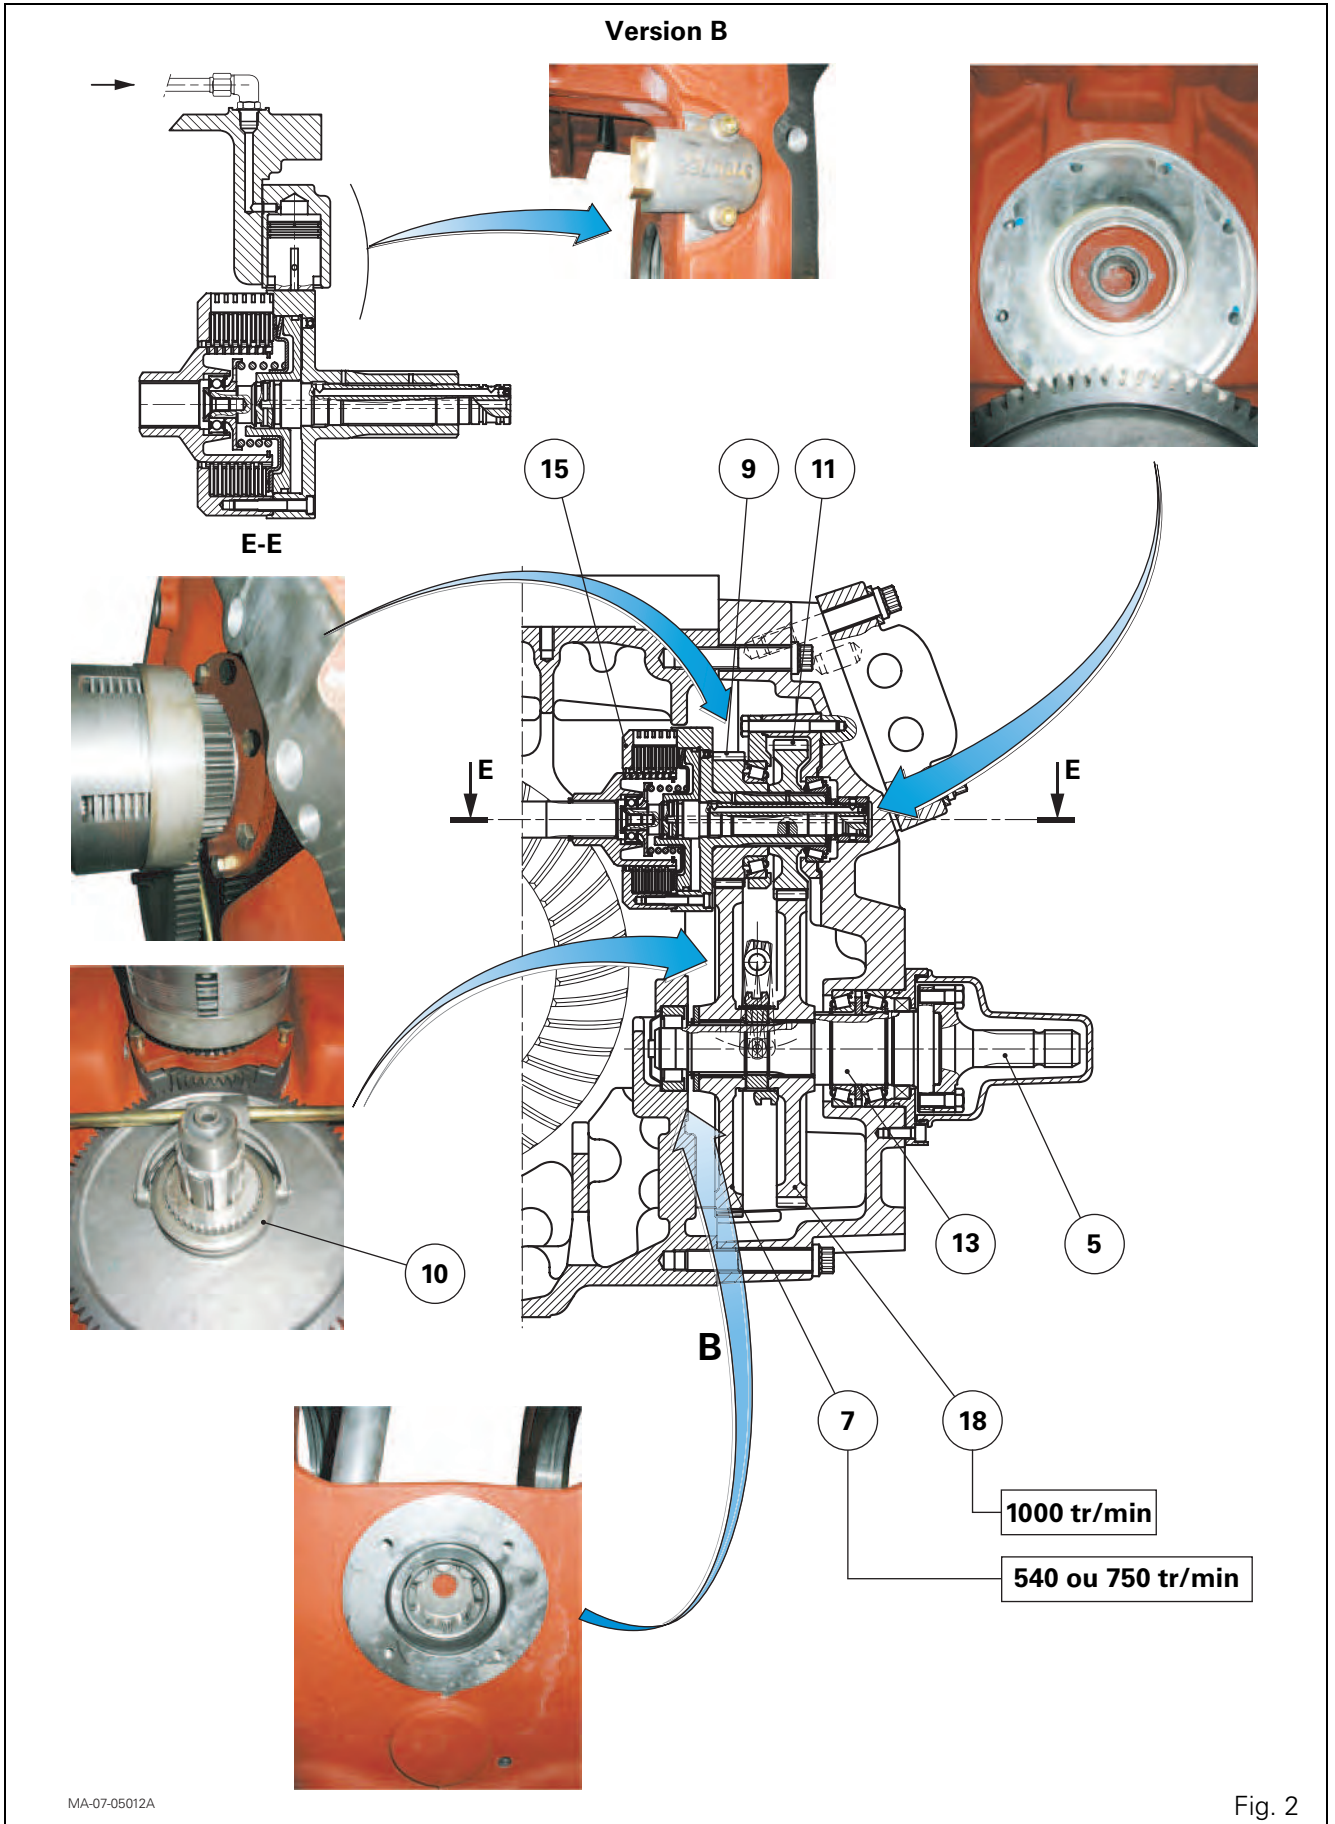

Fig. 2
Version B (Fig. 2)
Parts list (Fig. 2)
NOTA: On version C, a spacer (19) replaces the 540 or 750 rpm driving pinion (9) (Fig. 2).